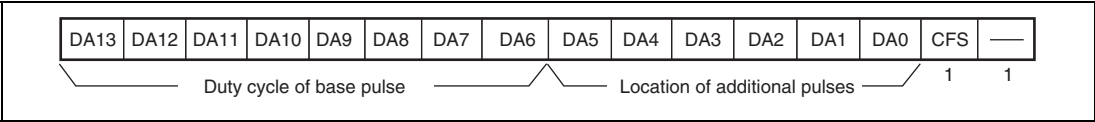

Figure 10.5 D/A Data Register Configuration when CFS = 1
An example of the additional pulses when CFS = 1 (base cycle = resolution (T) × 256) and OS = 1 (inverted PWM output) is described below. When CFS = 1, the upper eight bits (DA13 to DA6) in DADR determine the duty cycle of the base pulse while the subsequent six bits (DA5 to DA0) determine the locations of the additional pulses as shown in figure 10.5.